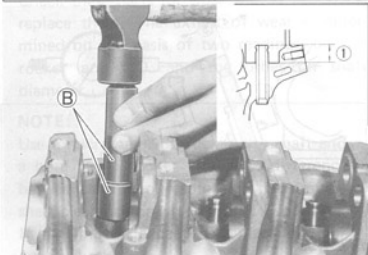

Fig. 4-60
- Heat the cylinder head uniformly at anywhere between 80° C and 100° C (176° F-212° F) so that the head will not distort, and drive the oversize guide into the hole with the valve guide installer set (B) (09916-57310 and 09916-57320). See Fig. 4-60. Be sure to carry out this step speedily so that all guides will go into the cylinder head in steady temperature state.